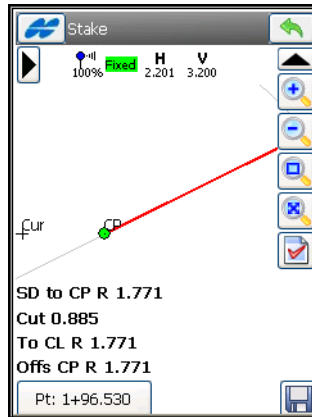

Figure 13-57. Stakeout
- Clicking the ok  button returns to the *Stake* screen (see Figure 13-57 on page 13-52).